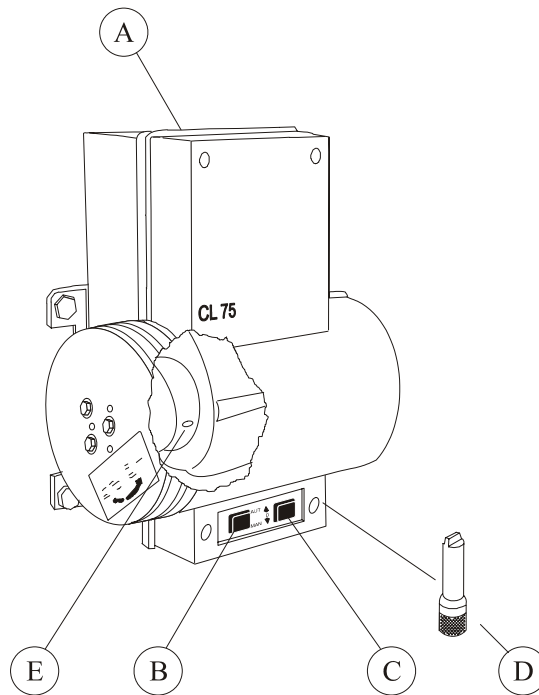

Figure 1
CL 75A should be mounted vertically. In countries with a hot climate it should be avoided that the sun shines directly on CL 75A. 3 or 4 pcs. of 10 mm through-bolts should be used to secure the unit. Above the unit, (A) on Fig. 1, sufficient space should be left free for an emergency opening crank or a battery-operated drilling machine to operate the motor, should emergency opening be required. The wires can be led in any direction, also through the wall.